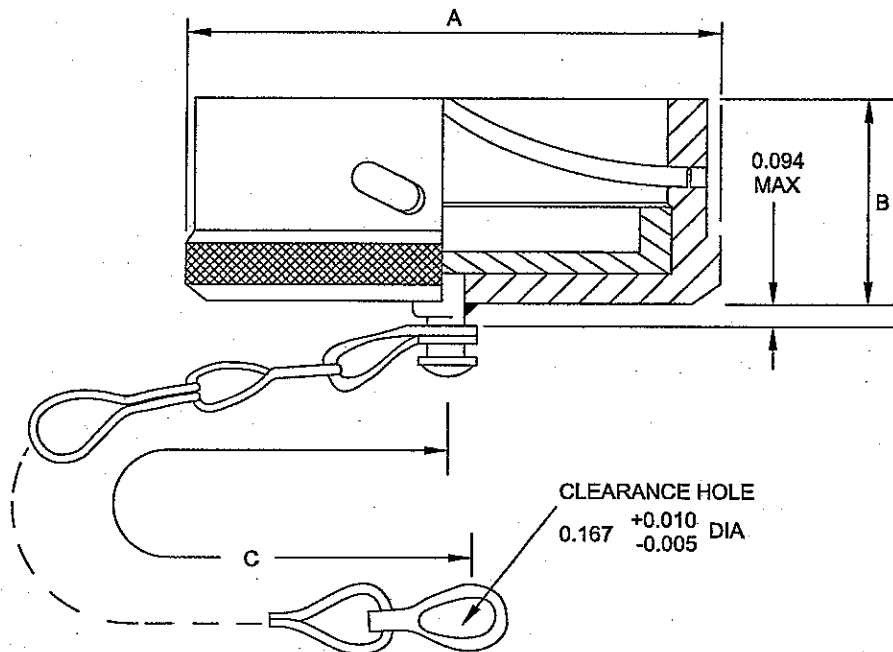

Fig 35 MS3181 Type C receptacle protective cap, general view
23.2 Details of the MS3181 Type C protective cap are given in Fig 35 and Table 23. The type N cap is of similar dimensions except that a flat washer is attached to the chain.